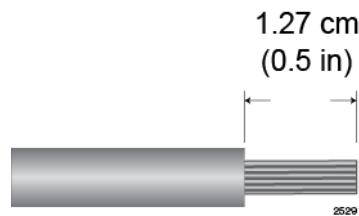

Figure 118. Stripping the Power Wires
1. Prepare adequate lengths of two stranded 8 AWG power wires by stripping them as shown in Figure 118.